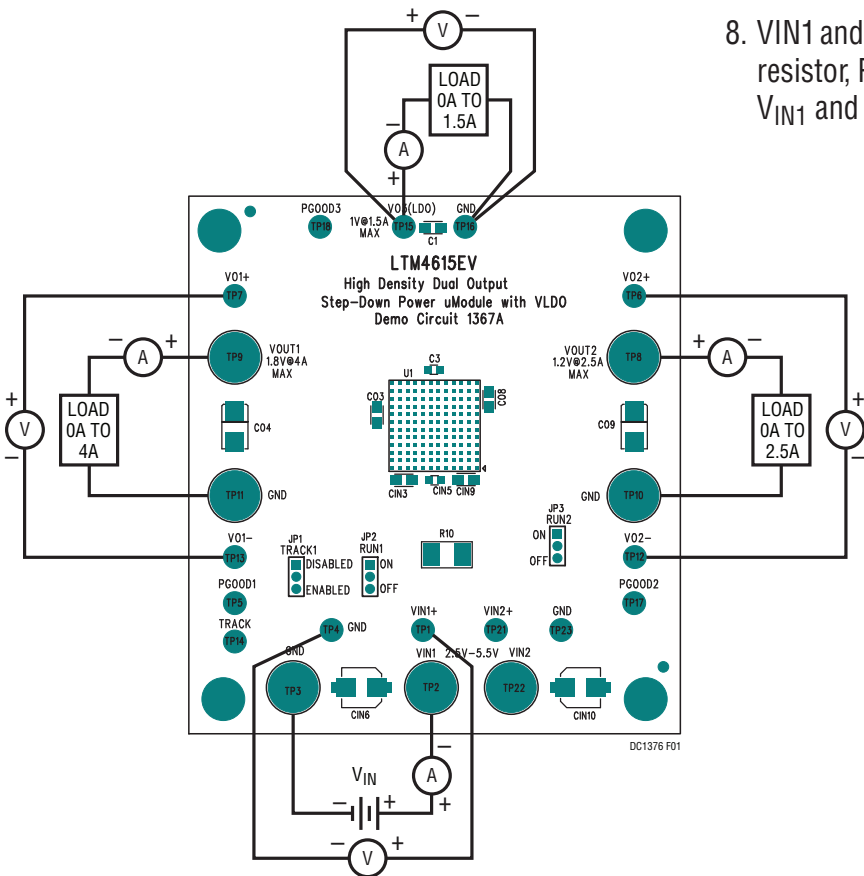

Figure 1. Test Setup of DC1367A
Demonstration circuit 1367A is an easy way to evaluate the performance of the LTM4615. Please refer to Figure 1 for proper measurement equipment setup and follow the procedure below:
2. With power off, preset the loads to 0A and  $V_{IN}$  supply to be 5V. Connect the input power supply, load and meters as shown in Figure 1.